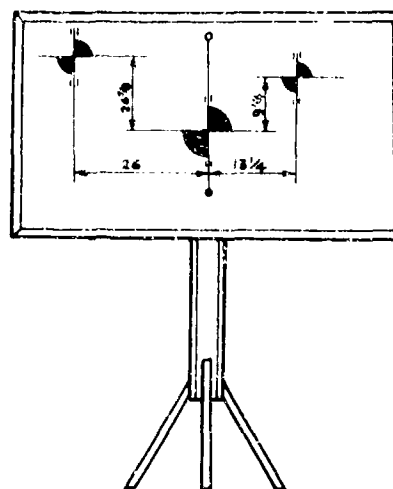

Figure 7-22. Boresight testing target for self-propelled howitzer M109A1/A2/A3.
(5) Place the testing target (fig 7-22) 50 to 100 meters in front of the howitzer tube and position the target so that the bore diagram is aligned with the boresights.
(6) Place the panoramic telescope in the telescope mount M145 and—